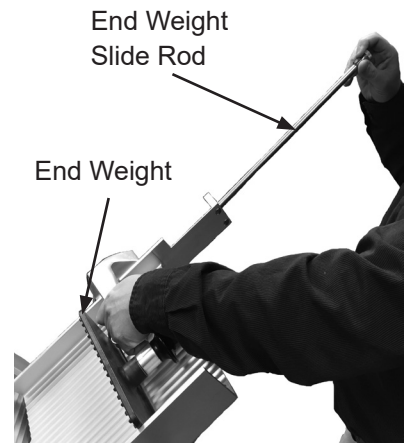

Figure 4-2.
2. Pull end weight slide rod out of end weight (Figure 4-2).